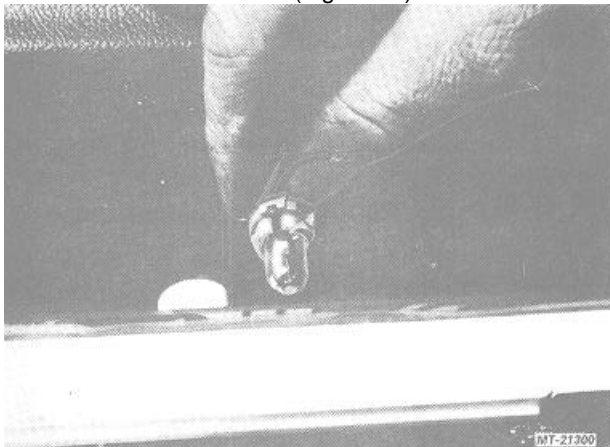

Fig. 13 Removing Bulb and Bulb Socket from Cluster
2. Turn bulb socket about one-eighth turn clockwise (as viewed from front of vehicle). Pull socket (with bulb) from instrument cluster (Figure 13).